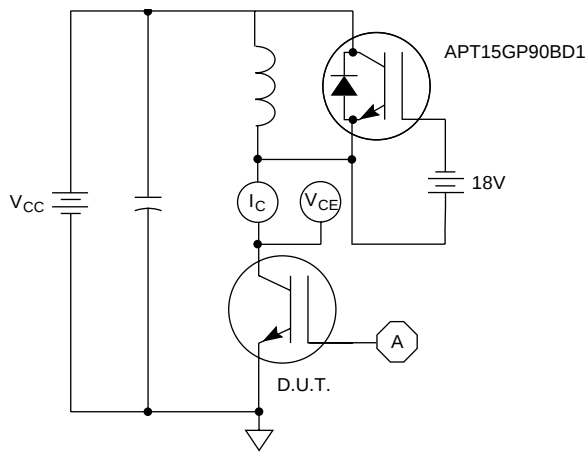

Figure 12, Inductive Switching Test Circuit
⑤ E_{on2} is the clamped inductive turn-on energy that includes a commutating diode reverse recovery current in the IGBT turn-on switching loss. A Combi device is used for the clamping diode as shown in the E_{on2} test circuit. (See Figures 12)
⑥ E_{off} is the clamped inductive turn-off energy. (See Figures 12, 13.)